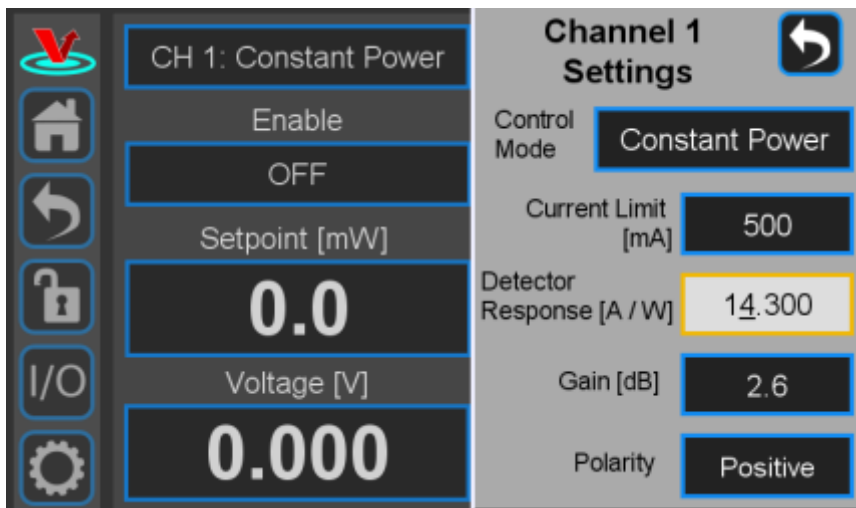

Fig. 26: Setting the detector response for Constant Power mode
2. Enter the value of the detector response supplied in the documentation that came with your monitor photodiode. (figure 26)